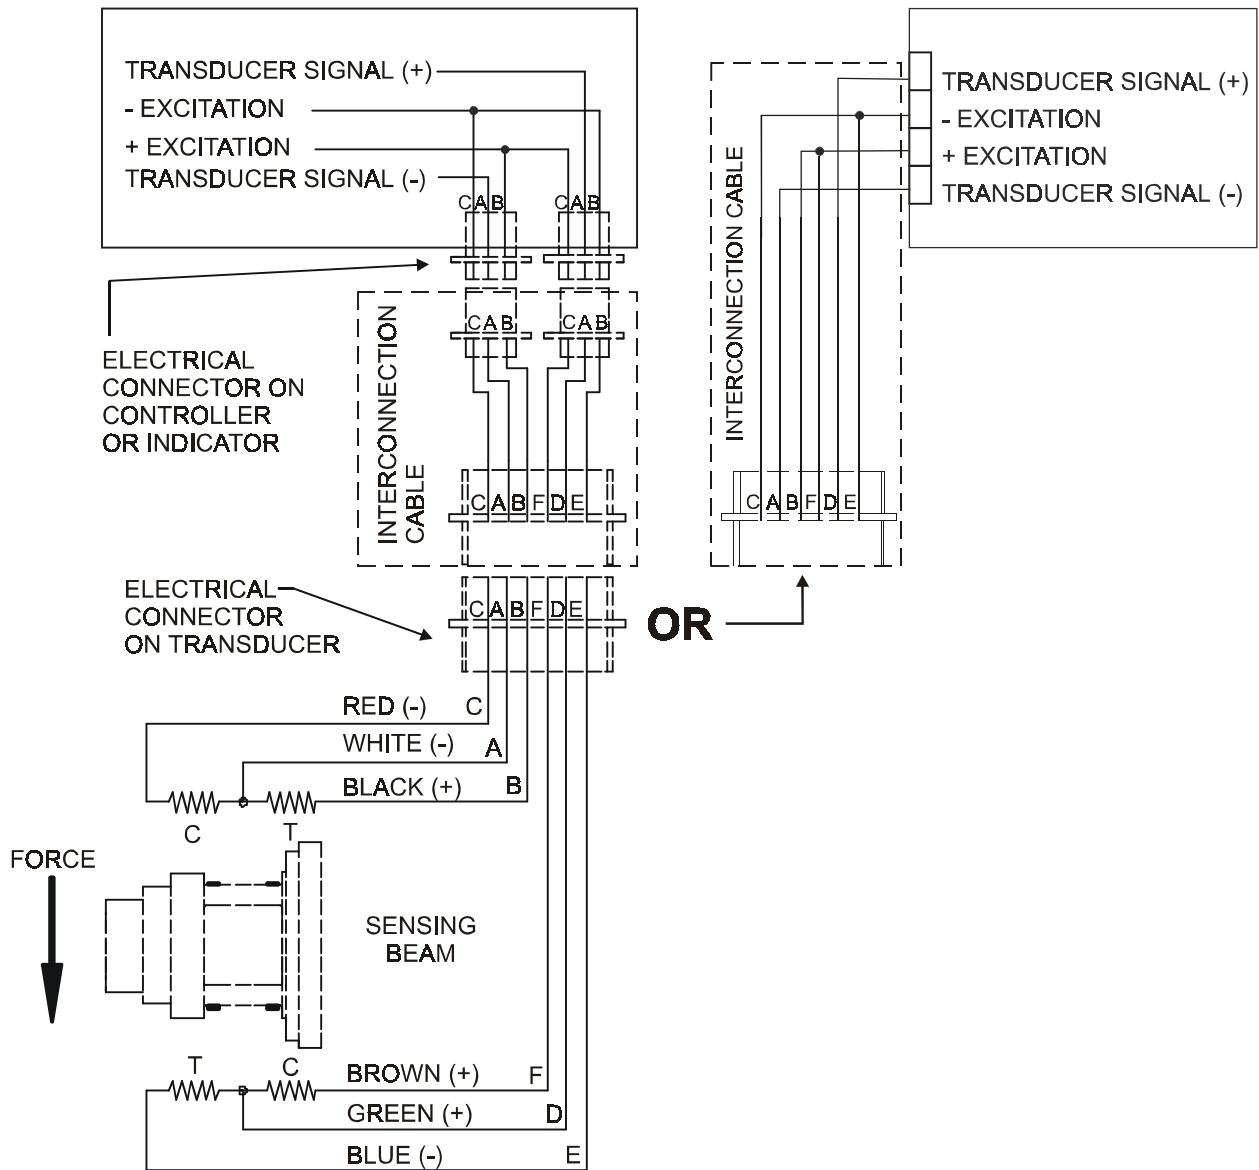

Figure 8 - MODEL RFA TRANSDUCER WIRING
2. Unsolder the wires (You need not remember where the wires came from because the correct connections are listed in Appendix A (Figure 8, page 13) and in the Specifications on Page 2 of this manual. Discard the old connector.